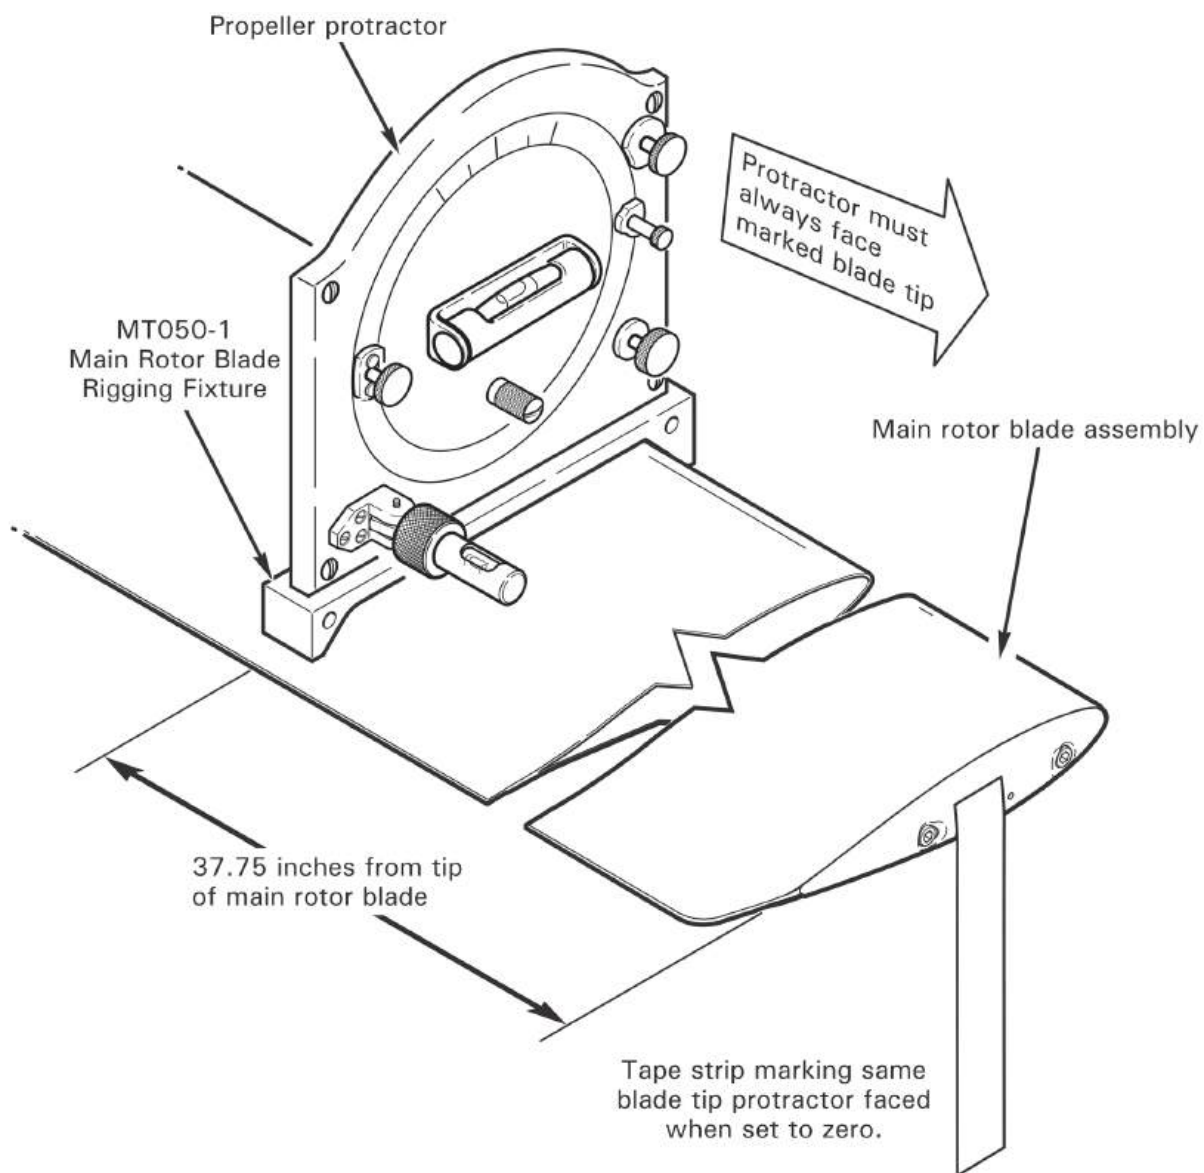

FIGURE 10-4 MAIN ROTOR BLADE RIGGING
Main rotor blade angles are measured using MT050-1 rigging fixture and a Kell-Strom KS113 propeller protractor or a comparable protractor (refer to Figure 10-4). Use following procedure to set up for rigging:
- a. Refer to Figure 10-4. Measure blade angles and record below. Rotate rotor 180° and record blade angles below. Adjust blade angles per step 4.b.
- a. Refer to Figure 10-4. Measure blade angles and record below. Rotate rotor 180° and record blade angles below. Adjust blade angles per step 6.b.
- a. Refer to Figure 10-4. Measure blade angles and record below. Rotate rotor 180° and record blade angles below. Adjust blade angles per step 9.b.
a. Refer to Figure 10-4. Measure blade angles and record below. Rotate rotor 180° and record blade angles below. Adjust blade angles per step 11.b.
- a. Refer to Figure 10-4. Measure blade angles and record below. Rotate rotor 180° and record blade angles below. Adjust blade angles per steps 3.b.